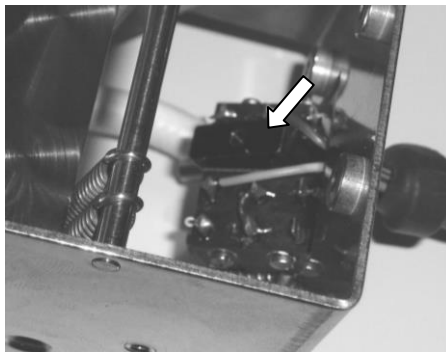

Figure 10 – Shunt Switch Assembly Uncovered
- 4.13 Carefully open the shunt door so the shunt switch cover can be removed out of the top of the shunt assembly. Once the cover is removed, the switch assembly is accessible. Figure 10 shows the shunt switch cover removed.